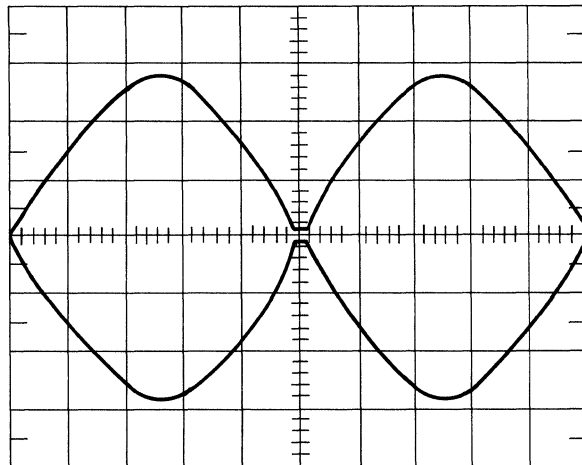

Fig. 4.2 Radial Alignment Waveforms (Cat's Eye)
5. Check amplitude waveforms for Side 0 and Side 1. Waveforms such as shown in Fig. 4.2 can be seen.
8. Turn the stepping motor along the base by hand until the lobes of the two waveforms have approximately the same amplitude, and retighten the mounting screws. (See Fig. 4.2.)